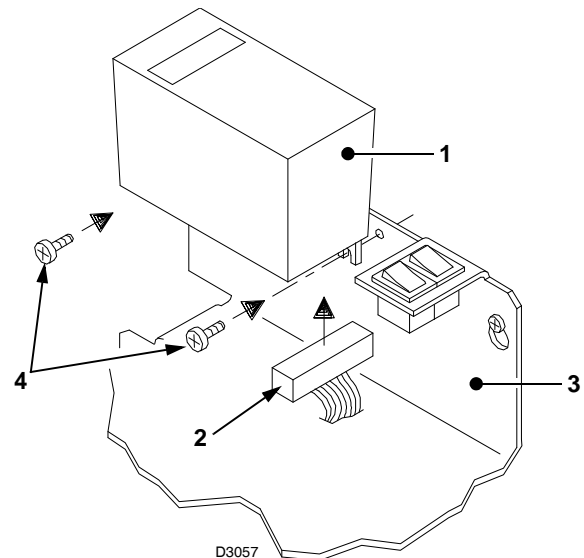

Fig. 1
- connect Status 1)(Fig. 1) using connector 2) fitted on the bracket 3);